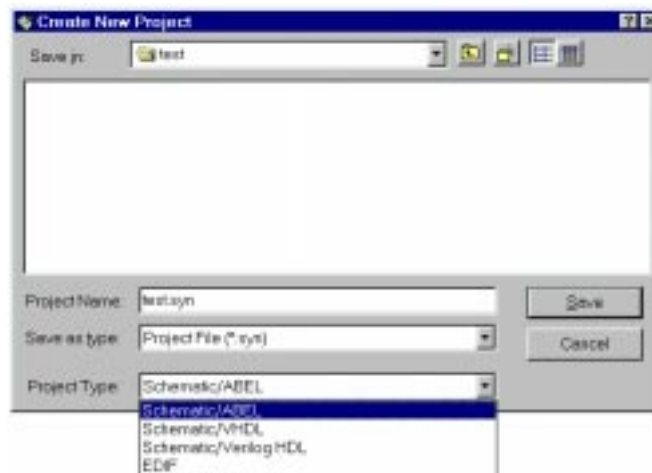

Figure 1-2. Create New Project Dialog Box
3. Create a new folder called `test`. Then, go into this folder and name the project file `test.syn`. Specify the type of the new project by choosing Schematic/ABEL, Schematic/VHDL, Schematic/Verilog HDL, or EDIF from the Project Type list (Figure 1-2).